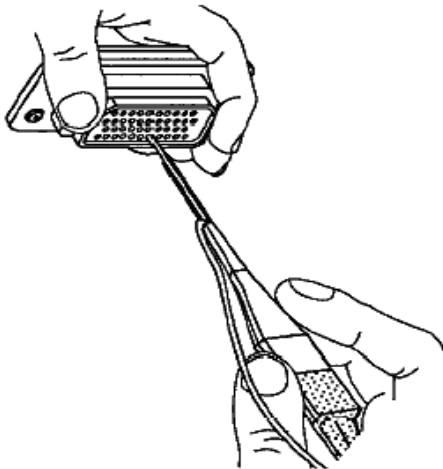

Figure 19. Inserting Wire into Removal Tool
b. Place wire of contact to be removed into removal tool, with white tip facing connector insert (Figure 19).